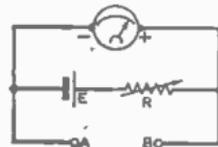
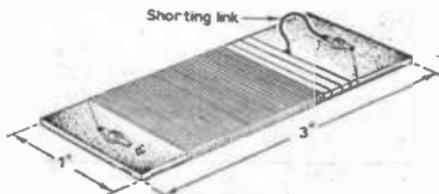

Fig. 1—Simplest type of ohmmeter.
Fig. 3—Shunt construction details.
Still on the subject of field faults, and still concerning ourselves with the Ferguson range, as the circuitry is in many respects similar to that of Fig. 1, let us conclude this section with some reference to the Thorn 850 chassis.
The field circuit is shown in Fig. 3, and from this it is evident that the basic 'shape' is very similar to the previous design, but there are a number of small differences, some required by the greater drive needed, and some by the 'convertibility' which was the great selling point at the time.
Fig. 3—Variation on the theme of Fig. 1, used in a wide range of Thorn receivers, under the Ferguson, Marconi, H.M.V and Ultra trade marks. Differences are discussed in the text.
A simple ohmmeter consisting of a meter, battery and a potentiometer is shown in Fig. 1. The battery potential is developed across the meter and the potentiometer, which permits adjustment to the current level in the circuit loop. Normally the potentiometer is adjusted to give full-scale deflection with the terminals A and B open-circuited. Any resistance path across the terminals such as
A simple way of making-up the meter shunt is to wind several feet of 32 s.w.g. manganin d.c.c. resistance wire on to a piece of paxolin sheet; cut to the dimensions given in Fig. 3. It is best to
Many Bush dual-standard models use an h.t. supply system giving three separate outputs, and a typical example is shown in Fig 3. The highest voltage output (208) of HT1 mainly feeds the receiver strip, while the lower voltage (188) but further smoothed HT2 supply mainly feeds the timebase circuits and the sync separator. The third output is purely for the a.f. output pentode.